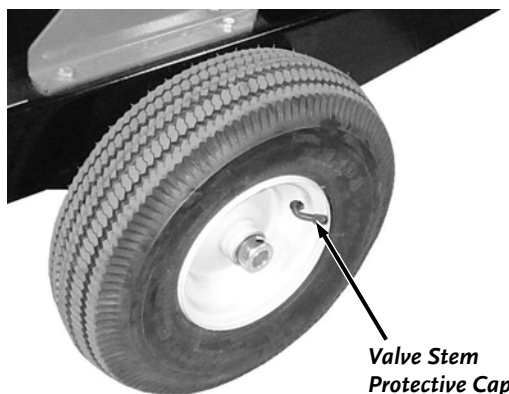

Figure 12
1. Remove the Valve Stem Protective Cap (**Figure 12**) and check the tire pressure with a Tire Pressure Gauge.